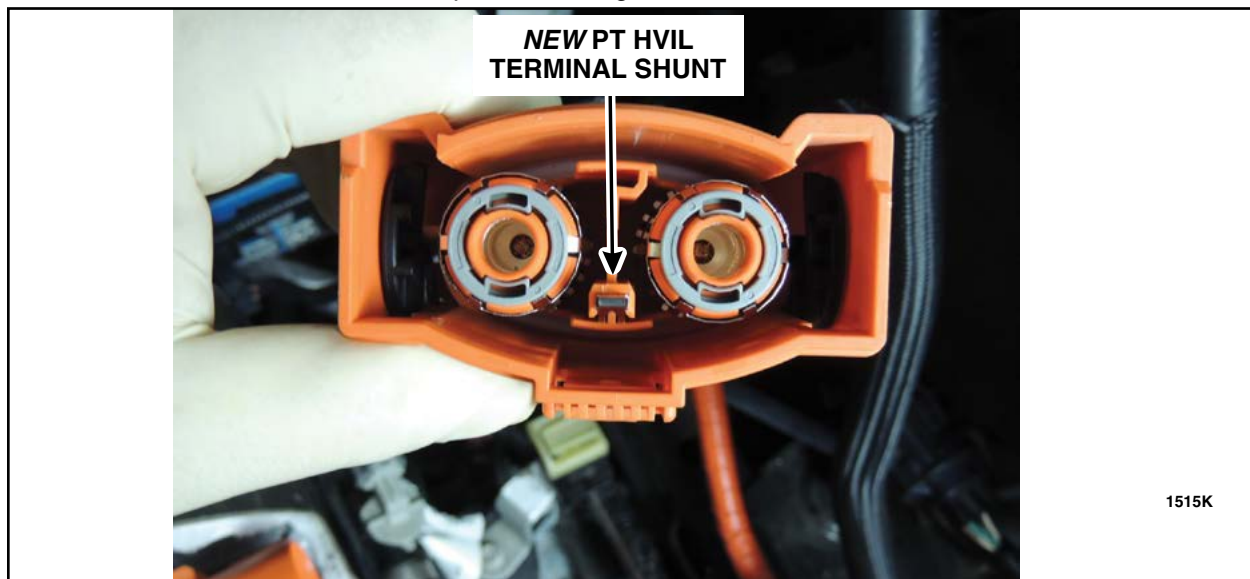

FIGURE 10
9. Install the *new* PT HVIL Terminal Shunt by slowly sliding into the slotted opening until an audible "click" is heard and the shunt is locked in place. See Figure 10.